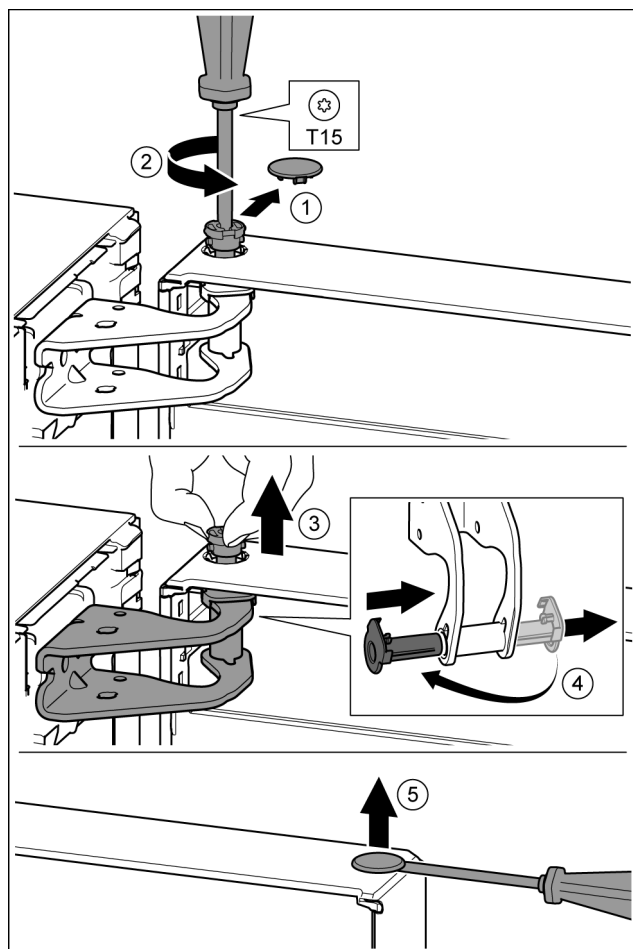

Fig. 11
- Carefully remove the protective cover. *Fig. 11 (1)*
- Undo the bolt a little with a T15 screwdriver. *Fig. 11 (2)*
- Hold the door and remove the bolts with your fingers. *Fig. 11 (3)*
- Pull the bearing bush out of the guide. Insert from the other side and click into place. *Fig. 11 (4)*
- Carefully lift the plugs out of the door bearing bush with a slotted screwdriver and remove. *Fig. 11 (5)*